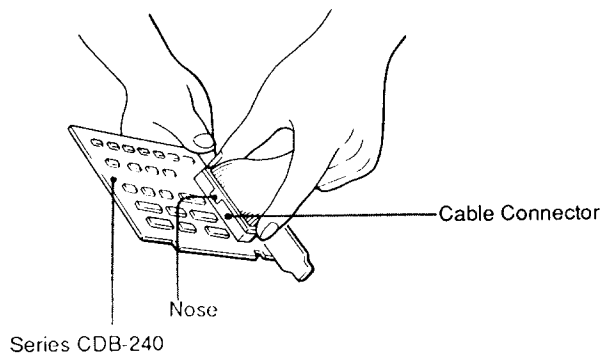

Figure 4-1. Attaching the Internal Host Bus Connector Cable to the Card
- 2** Attach the other end of the cable to the card. For proper attachment, be sure to align the nose on the cable connector with the groove in the card connector (see Figure 4-1).